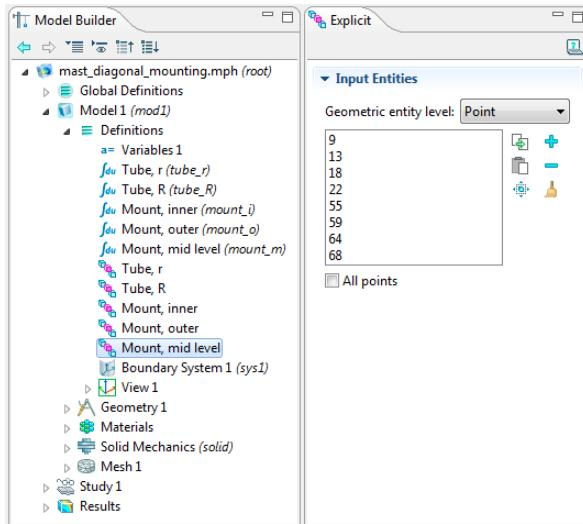
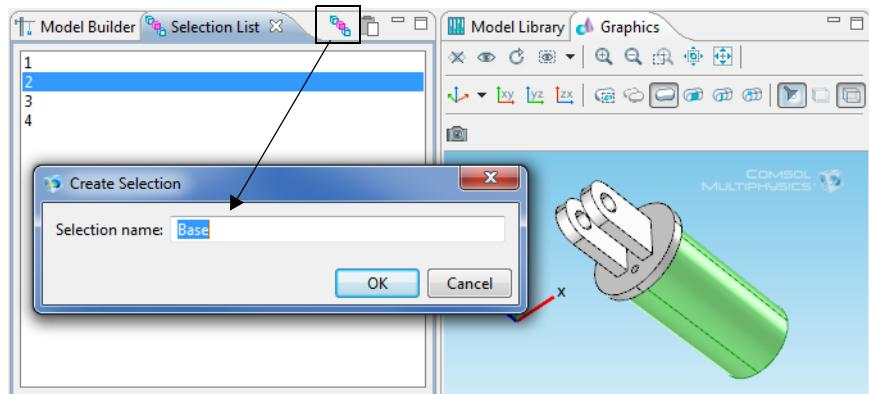
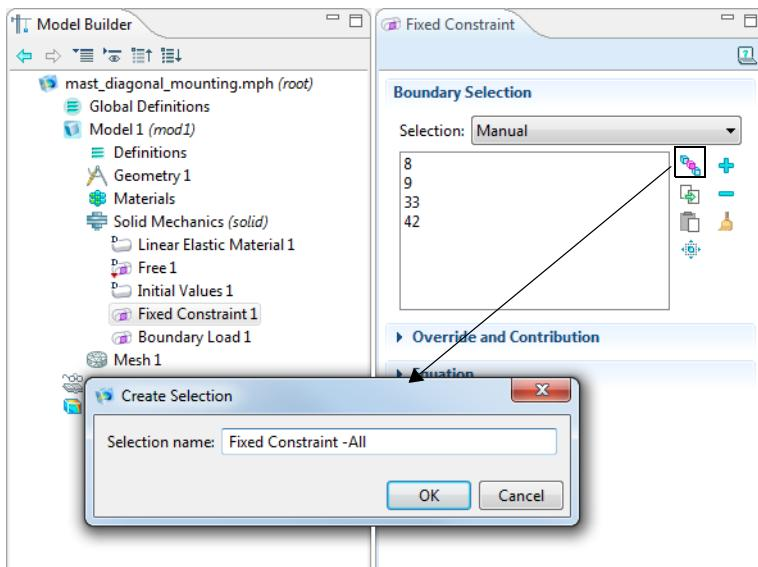

Figure 4-6: An example of an Explicit selection window for the Mount, mod level node. The Selection nodes under Definitions are renamed by the user.
Figure 4-7: Creating a selection from the Selection List window.
Figure 4-8: Creating a selection from the settings window for a Fixed Constraint feature.
Figure 4-6 uses a Model Library model example where several user-defined selections have already been created.
Figure 4-6 is an example of working with the Selection nodes under Definitions. In the settings windows for all selection nodes except **Explicit** selection nodes click the **Zoom Selected** () button to zoom in on the selected geometric entities.
- See also Figure 4-6 for a model example
- 3 Click the **Create Selection** button () and enter a **Selection name** in the window that opens. See Figure 4-7.
- 3 Click the **Create Selection** button () and enter a **Selection name** in the window that opens. See Figure 4-8.
You can also use the **Paste Selection** button () if you have a list of geometric entities that you want to paste into a selection list. The button is available in the same places as the **Create Selection** button (see Figure 4-6, Figure 4-7, and Figure 4-8) You can type selection data directly into the **Paste Selection** window that opens when the button is clicked.